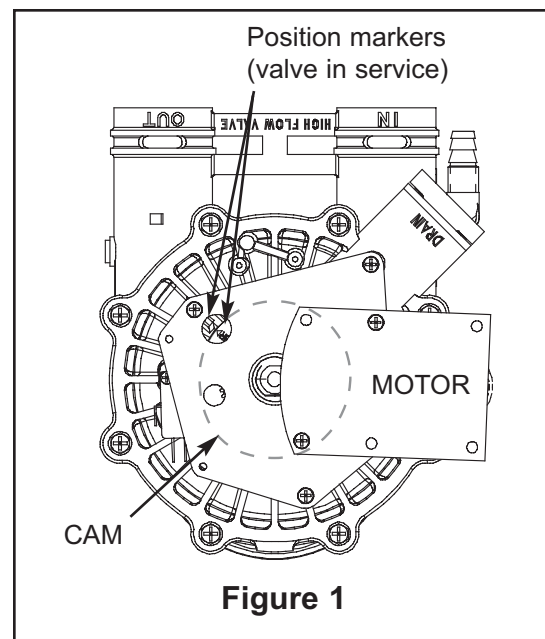

Figure 1
**IMPORTANT:** BE SURE THE VALVE CAM INDICATES "SERVICE" POSITION (See Figure 1) WHEN REPLACING THE ELECTRONIC CONTROL BOARD (PWA), TO ASSURE BOTH VALVE AND PWA ARE ORIENTED, OR TIMED, TO THE SAME CYCLE. If the valve is not in Service position, see step 11 below.